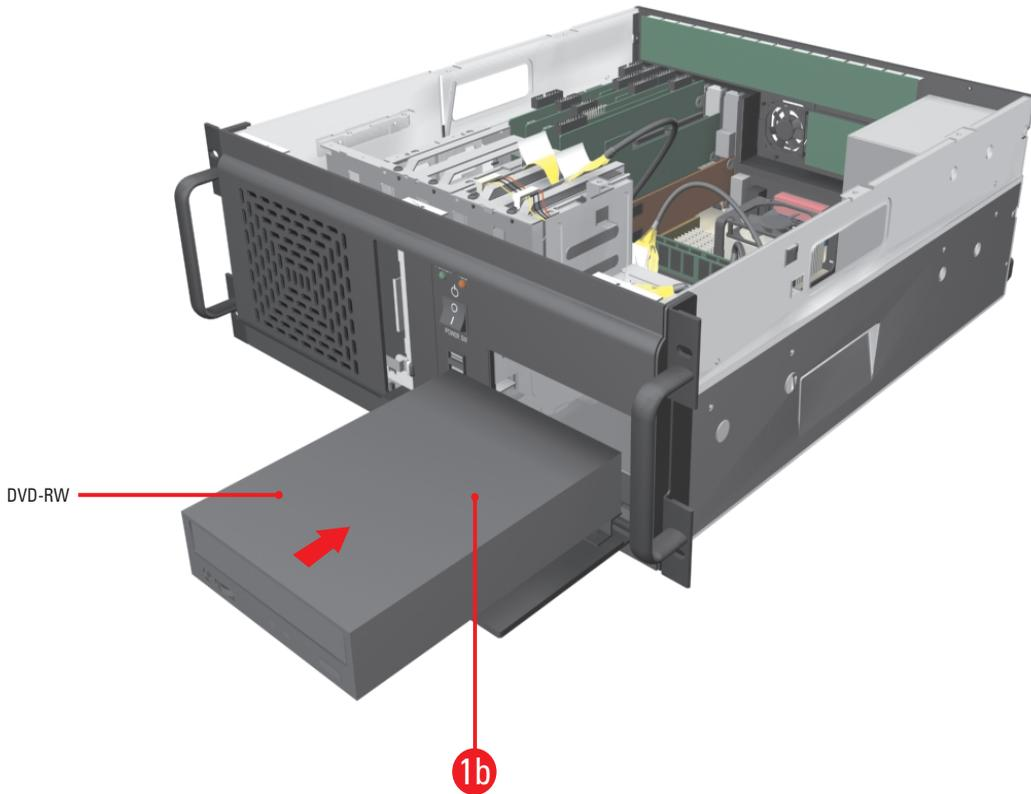

Figure 11. Inserting the New DVD-RW Drive
- b. Insert the new DVD-RW into the DVR through the front of the unit. Refer to Figure 11.